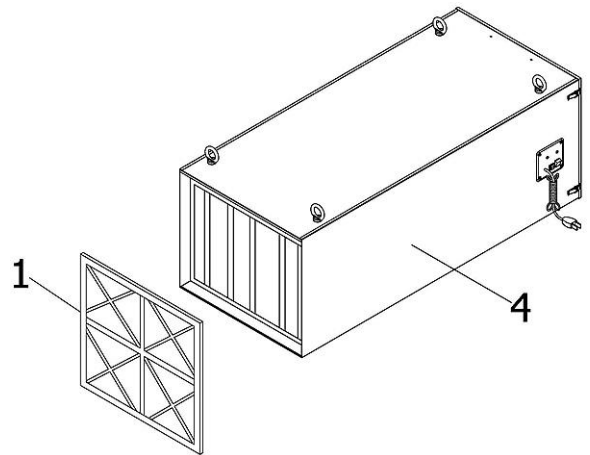

Fig.3
7. Installed the Outer Pre-Filter (NO.1) into the cabinet (NO.4). See FIG.3